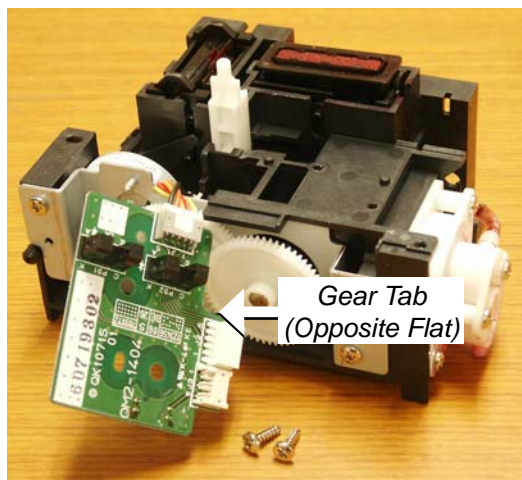

Figure 5-17C Removing Purge Unit Sensor Board
4. Carefully disconnect harness connector to free board. See Figure 5-17C, next page.
3. Press down outer gear tab opposite flat on shaft (Figure 5-17C) and remove outer and inner gears.